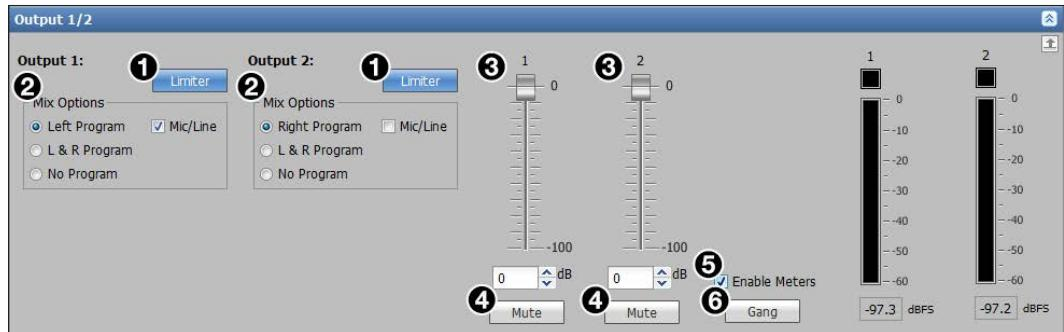

Figure 76. Analog Audio Output 1/2 Section
2. If desired, deselect the **Mic/Line** check box (see figure 76, 2 on the previous page) to not include the mic/line inputs in the amplified output (this is selected by default).
3. In each **Mix Options** panel (see figure 76, 2), click the desired radio button. The two outputs can be mixed together (see the table below).